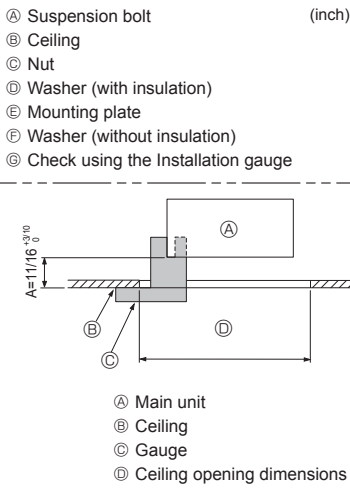

Fig. 2-6
- Make sure that A is performed within 17-22 mm, 11/16-7/8 inch. Damage could result by failing to adhere to this range. (Fig. 2-6)